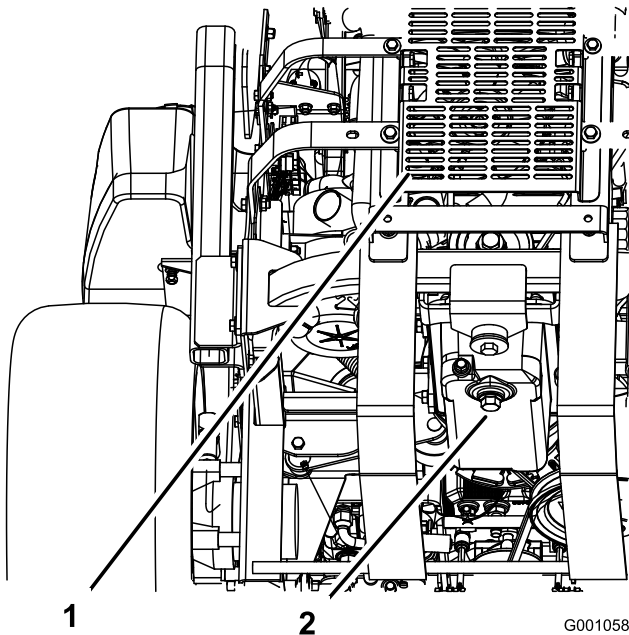

Figure 53
5. Place a pan below the oil drain. Remove the drain plug and let the oil drain completely (Figure 53).